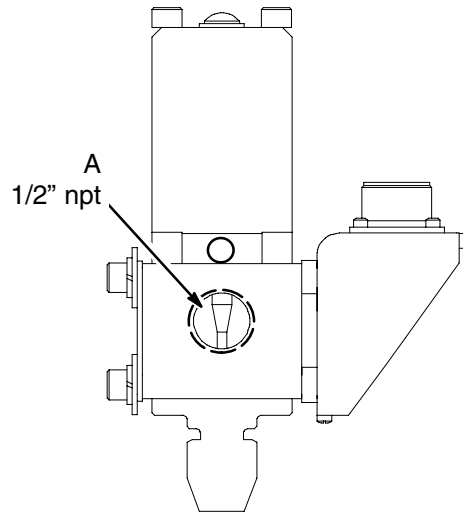
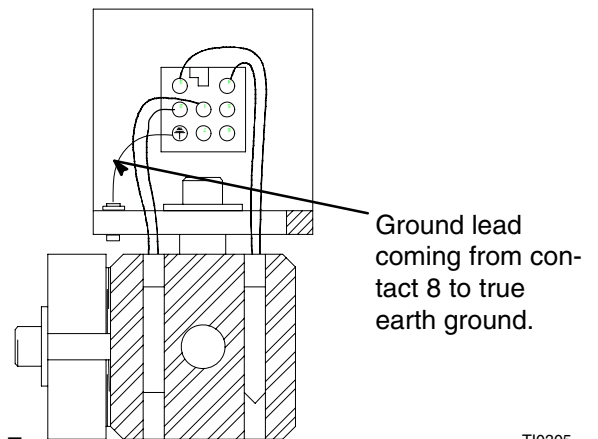

Fig. 5
Fig. 7
Making sure to connect the appropriate air lines to the appropriate ports (see Fig. 5), securely connect air lines to dispense valve air ports (G).
Securely connect the material hose to the dispense valve material inlet port (A). See Fig. 5.
3. Verify that socket contact E on six pin models (see Fig. 5) or contact eight on eight pin models (see Fig. 7), inside control panel receptacle, is connected to true earth ground.